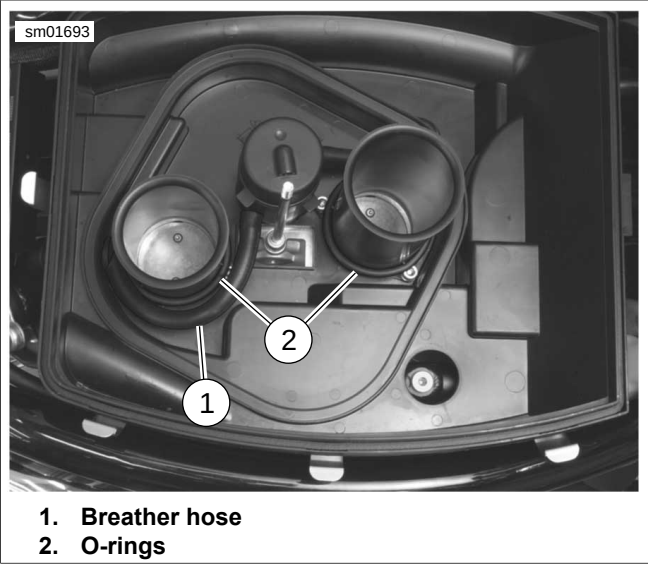

Figure 1-11. Velocity Stacks (typical)
6. See Figure 1-11. Disconnect breather hose (1). Slide velocity stack O-ring (2) up the velocity stack body to access the three retaining fasteners. Remove the velocity stacks.